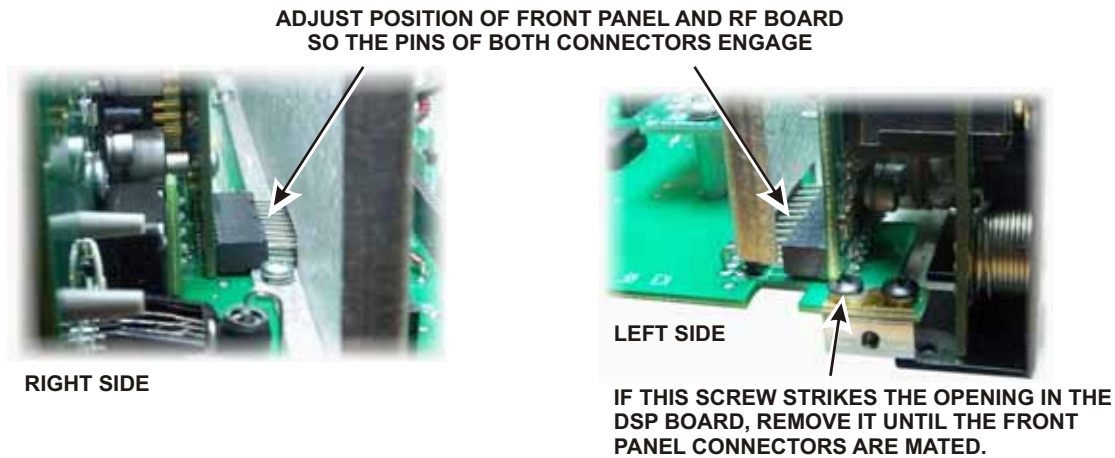
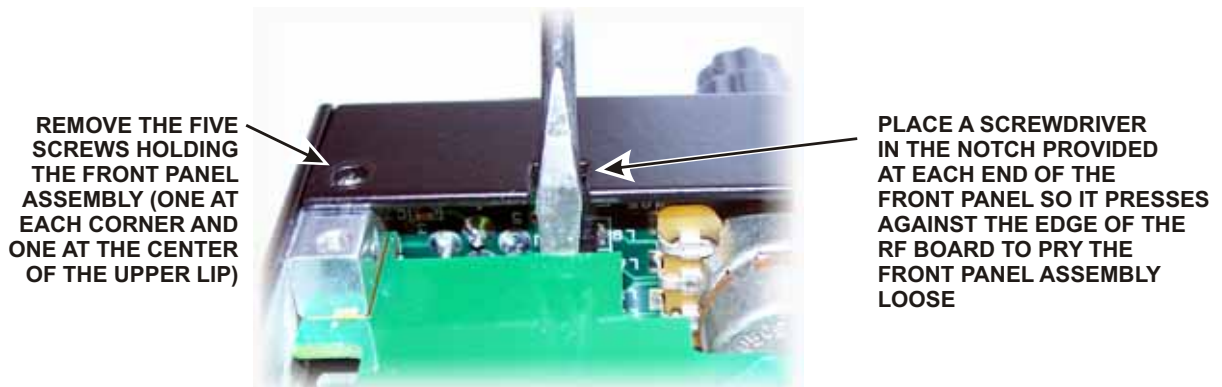

Figure 51. Mounting Front Panel Assembly - Connectors P50 and P51.
Figure 52. Removing the Front Panel.
☐ Look at the two multi-pin connectors on the top of the RF board to see if they are engaging the corresponding connectors on the front panel assembly (see Figure 51). Adjust the position of the RF board or the front panel assembly to ensure they are mating properly.
**⚠ REMOVING THE FRONT PANEL:** If you need to remove the front panel assembly, remove the five screws holding it to the chassis (three on the top lip and two on the bottom), turn the unit upside down and use a screwdriver in the two pry slots provided as shown in Figure 52. Do not insert the screwdriver deep enough to strike components on the boards! Pry each end in short increments until the connectors separate. Either a blade (as shown) or Phillips screwdriver may be used. Note that you may need to remove the left side panel and the 2D mounting screw shown in Figure 51.
If you removed the screw from the 2D fastener as shown in Figure 51, replace it and the lock washer.